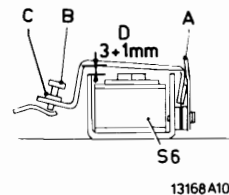

Fig. III-12
- Check the armature stroke of electromagnet S6. Distance D must be $3+1$ mm (Fig. III-12).